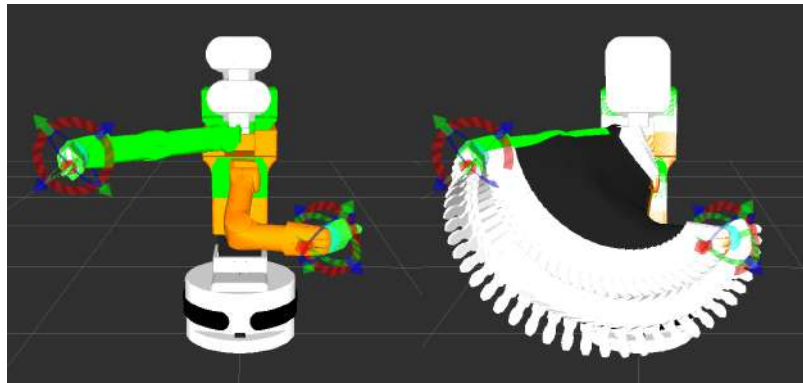

Figure 124: Sequence of plan
5. The sequence of images in figure 124 shows the result of clicking the “Update” goal pose with random inviz, then clicking “Plan and Execute” in the simulator. Rviz will visualize the plan before executing.